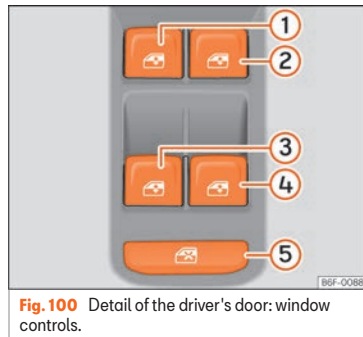

Fig. 100 Detail of the driver's door: window controls.
The safety control »» Fig. 100 ⑤ on the driver door can be used to disable the electric window buttons on the rear doors.